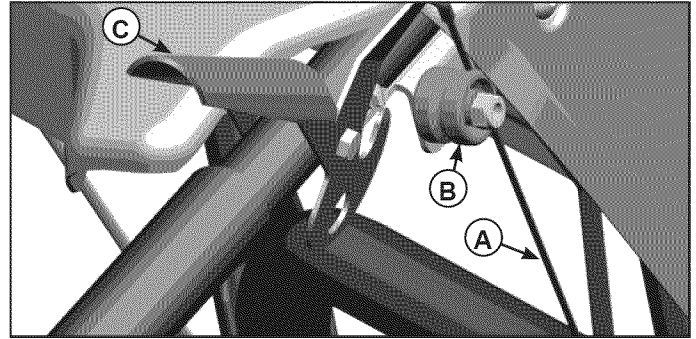

Figure 34. Auger Cable Button
1. Check that the auger cable (A, Figure 34) is on top of cable button (B) as show in Figure 34.